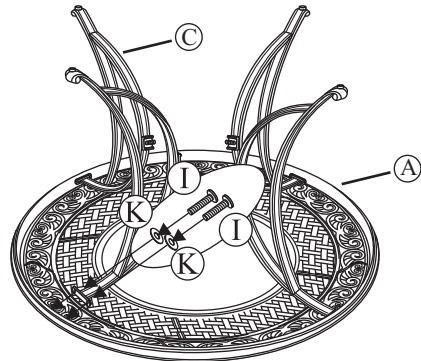

Figure 1
Step 2: Place the table top upside down on a flat, non-abrasive surface. Attach table leg (C) to table rim (A) using bolts (I) and washers (K) as shown in *Figure 1*. Guide bolt through hole in table leg, into pre-drilled hole in the table rim. Hand tighten three or four turns only. **Do not tighten completely.** Some adjustments may be necessary to ensure proper alignment of the table legs. Repeat for other three legs.